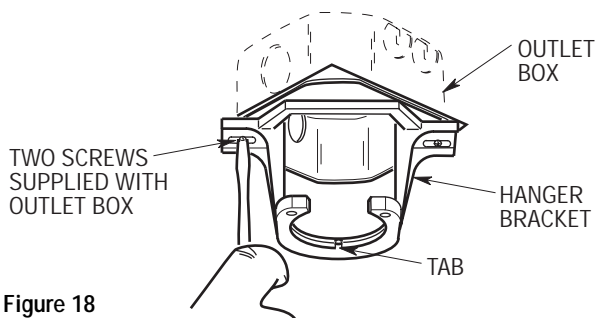
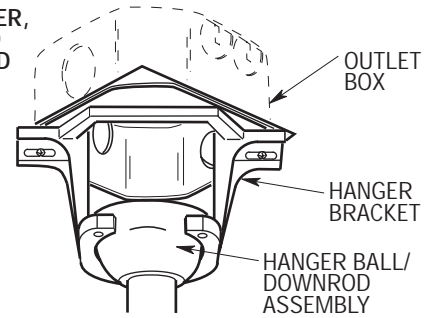

Figure 18
Figure 19
1. Securely attach the hanger bracket to the outlet box using the two screws supplied with the outlet box. (Figure 18.)
2. Carefully lift the fan and seat the hanger ball/downrod assembly on the hanger bracket that was just attached to the outlet box (Figure 19). Be sure the groove in the ball is lined up with the tab on the hanger bracket (Figure 18).